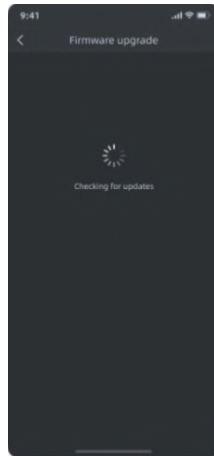

Figure 2
2)Figure 2: Check if there is a new firmware version available.